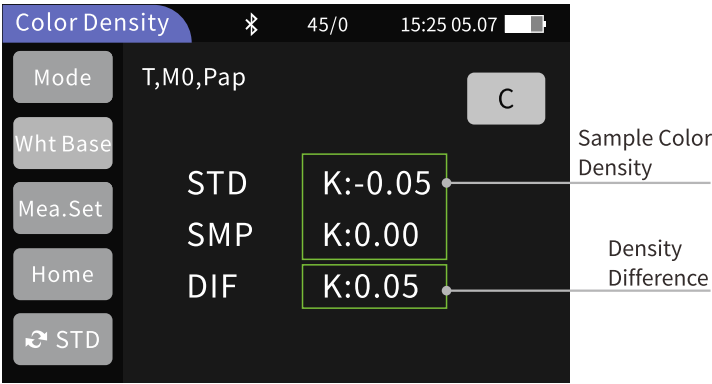

Figure 11 Sample Color Density Interface-2
- 3. Color Space/White Base: Displays the current color space; tap to edit. If color density mode is selected, it displays "White Base" (Figure 11).